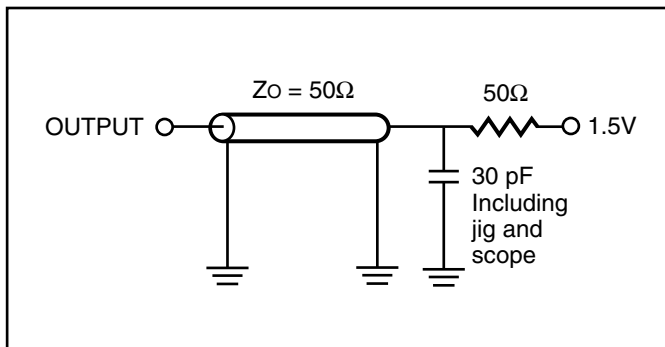

Figure 1.
| Output Load | See Figures 1 and 2 | See Figures 1 and 2 | See Figures 1 and 2 |
1. Test conditions assume signal transition times of 3 ns or less, timing reference levels of 1.5V, input pulse levels of 0V to 3.0V and output loading specified in Figure 1.